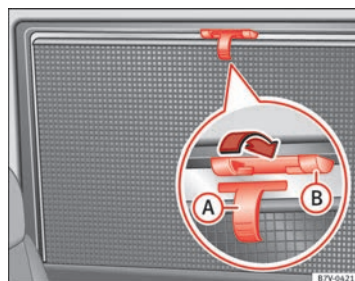

Fig. 64 On the rear right-hand window: sun blind
- Pull the sun blind by the handle ⇒ Fig. 64 (A) up to the top.
- Hook both rings of the fastening rod in the spaces provided (B). Check that the sun blind is securely hooked into the spaces provided when it has been lowered (B).
- To put the sun blind away, unhook it at the top and lower by hand ⇒ ①.